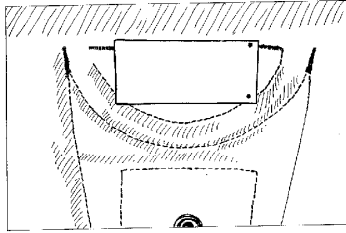

Figure 2
- 2.1. Mark the inside of the reserve container for the location of the opening for the Cypres control unit and the pocket perimeter. Figs 2 & 3. Make sure the end with the holes are located to the wearer's right. The bottom corners of the marking template will overlap slightly into the channel (not more than .25"/6mm) for the teflon tube. However, you must make sure that there is sufficient space to re-install the tube. The top edge of the pattern will extend above the top row of stitching and into the flap that covers the bridle. This is not a problem since there is no loading on the flap.